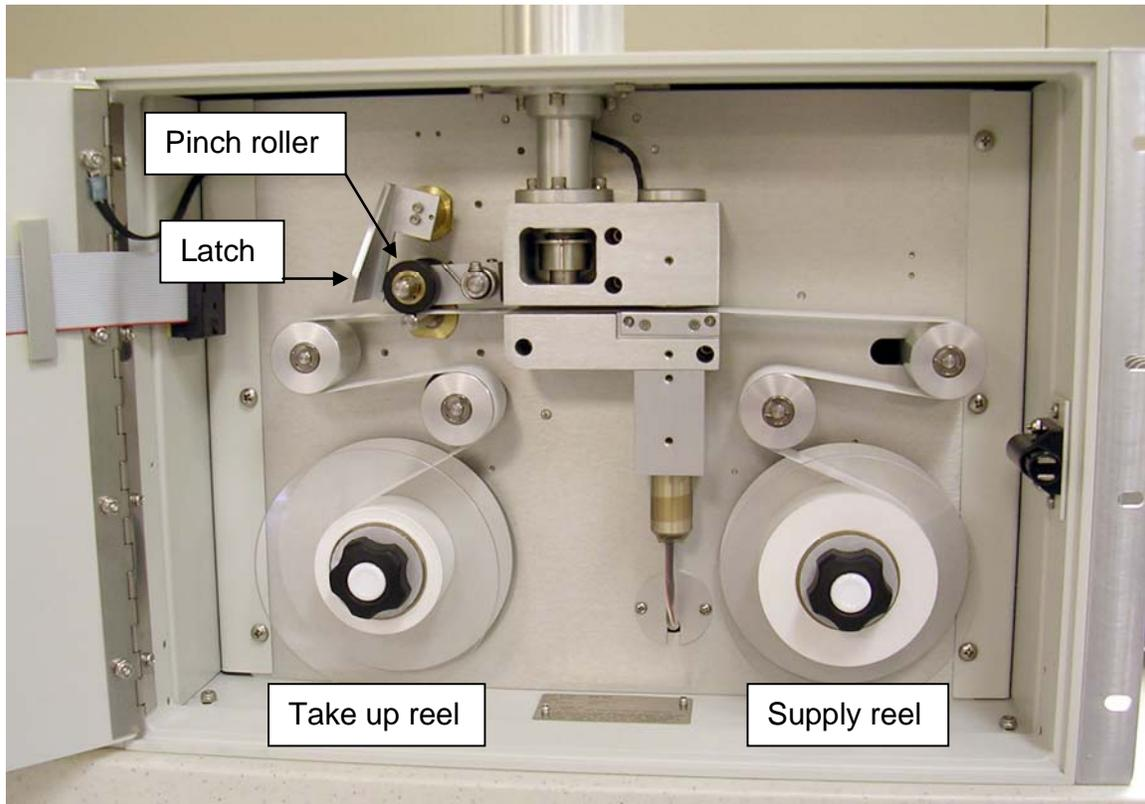

Figure 9-4. Filter tape routing in the BAM-1020.
**Figure 9-4** depicts the routing of the filter tape in the instrument. There are several things to be aware of during the tape-loading process:
2. Lift the rubber pinch roller assembly (see Figure 9-4) and latch it in the UP position. Unscrew and remove the clear plastic spool covers.
4. Load the new roll of filter tape onto the right (supply) reel, and route the tape through the transport assembly as shown in Figure 9-4. Attach the loose end of the filter tape to the empty core tube with cellophane tape or equivalent.